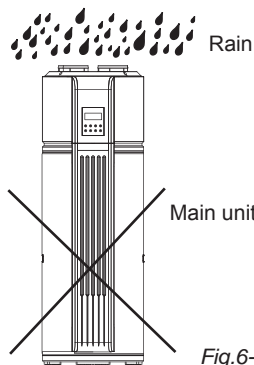

Fig.6-5
- Warning: In case of rain entering to internal components of the main unit, the component might be damaged or causing physical danger.(Fig.6-5)